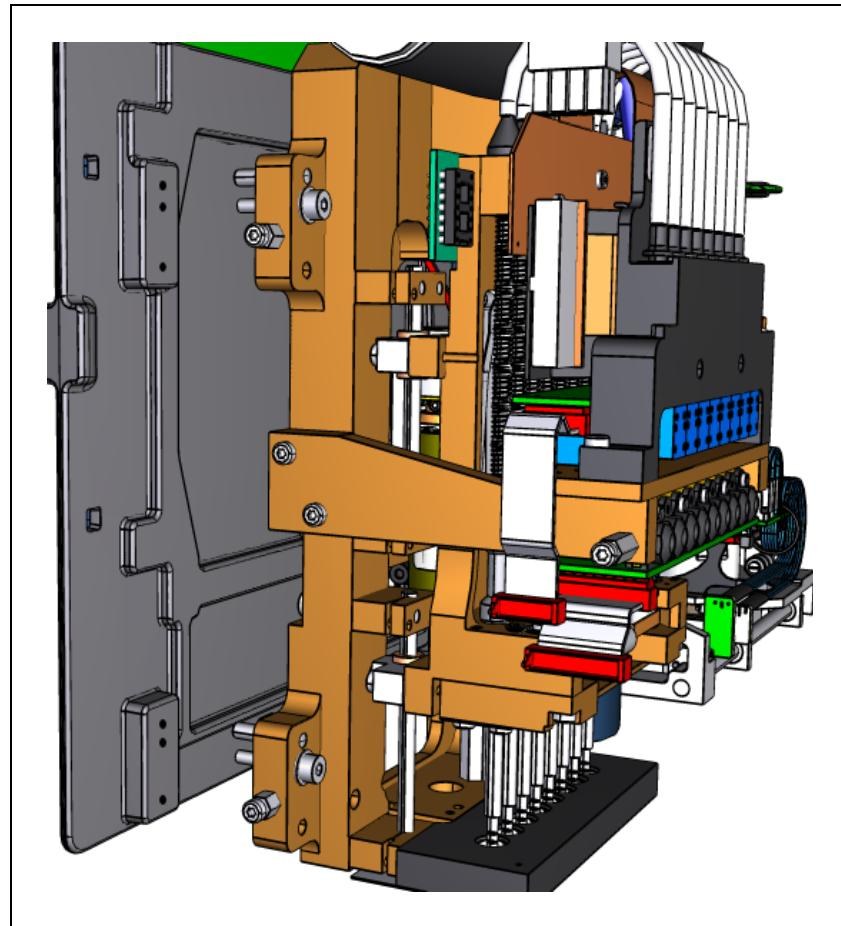

Figure 6-20. Attach HYDRA preliminary.
6. Attach the HYDRA preliminary according to Figure 6-20. When the screws and guide pins are correctly aligned, attach the HYDRA unit to the X-wagon plate with one screw per attachment ear (two screws on the left side and one screw on the right side).